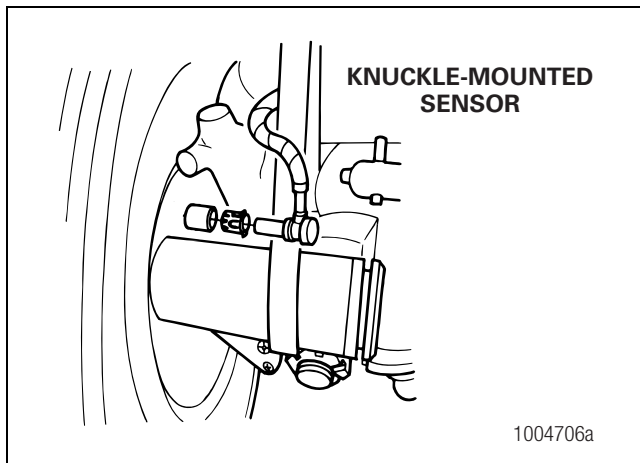

Figure 4.62
4. Remove the sensor from the sensor holder. Twist and pull the sensor to remove it from the sensor bracket. **Do not pull on the cable.** Figure 4.62.